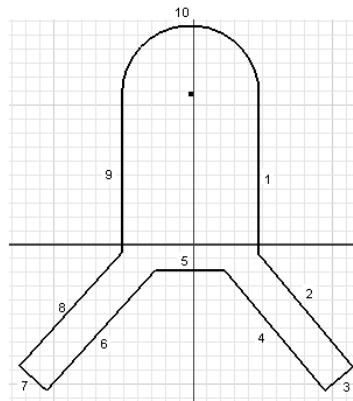

Figure 3-65 Initial sketch with the geometries numbered
- Choose the **Line** tool from the **Draw** panel of the **Sketch** tab to draw the outer loop, as shown in Figure 3-65. As mentioned earlier, you should draw the inner loop after drawing and dimensioning the outer loop. This is because once the outer loop is dimensioned, you can draw the inner loop by taking the reference of the outer loop.
You can draw the arc while the **Line** tool is active. You can also use the temporary tracking option to draw this sketch. For your reference, the geometries in the sketch are numbered, see Figure 3-65.